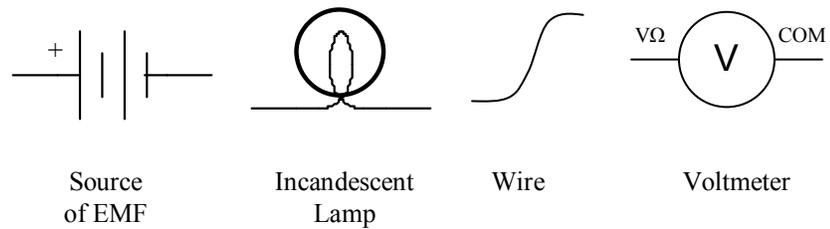

Figure 5: Symbols to use in circuit diagram
- Draw a circuit diagram in the box below to show how you will use the multimeter, configured to measure voltage, to measure the potential drop across one of the bulbs in a two bulb circuit. Use only the symbols shown in *Figure 5*. (The symbols $V\Omega$ and COM are the labels on your multimeter for the two sockets where you connect the meter's probes when measuring potential difference (V) or resistance (Ω). When measuring potential difference, as you are here, if the probe connected to the $V\Omega$ socket is placed at the point of higher potential you will obtain a positive reading from your meter.)